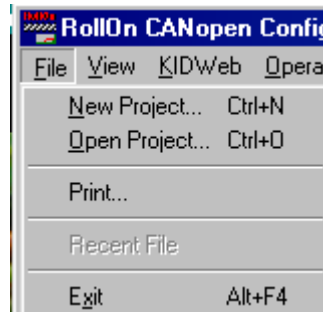

Fig. 4.2
- Click on File menu to open the drop-down list shown in Fig. 4.2.